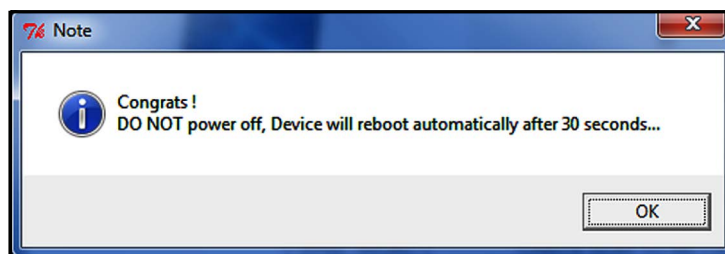

Figure 38: Reboot Message
7. After the progress bar indicates that the firmware update is 100% complete (about 10 minutes), the message shown in Figure 38 below will be displayed. Note that the AT600 will automatically reboot in 30 seconds.